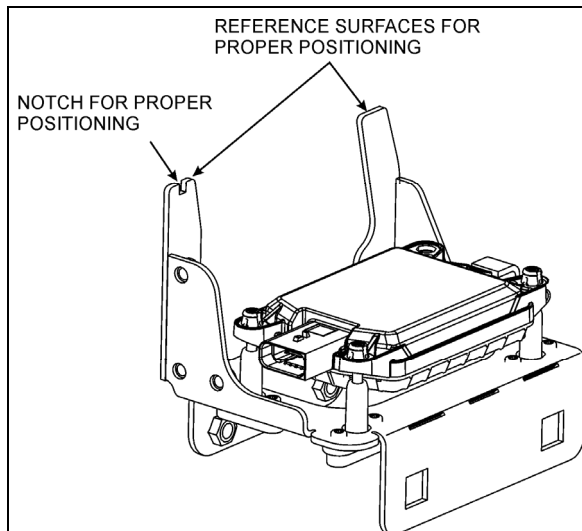
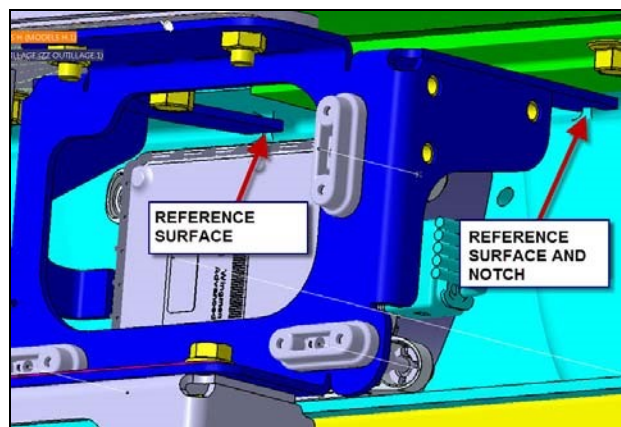

FIG.7: H3 SERIES
FIG.8: H3 SERIES
3. Plug radar sensor harness, install the new radar sensor, and support assembly similarly as the previous installation. Make sure that the reference surfaces lean against the bumper structure and the notch in the radar support is at proper position (fig.7 & fig.8).